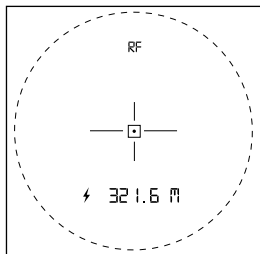

Fig. 4. RF mode (distance measurement).
1. Switch on the device and switch to "RF" mode (Fig. 4).